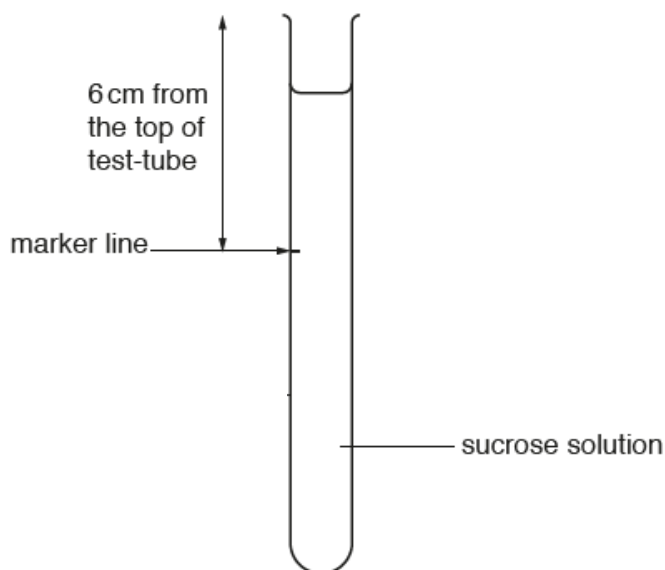

Fig. 1.4
8. Measure 6 cm from the **top** of each of the **test tubes** and put a mark, as shown in Fig. 1.4.
You will now use the test-tubes as in Fig. 1.4.